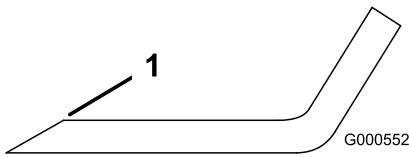
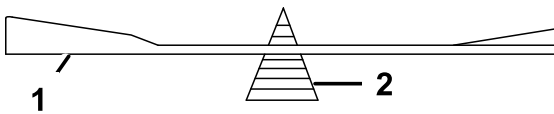

Figure 54
Figure 55
- Use a file to sharpen the cutting edge at both ends of the blade (Figure 54). Maintain the original angle. The blade retains its balance if the same amount of material is removed from both cutting edges.
- Check the balance of the blade by putting it on a blade balancer (Figure 55). If the blade stays in a horizontal position, the blade is balanced and can be used. If the blade is not balanced, file some metal off the end of the sail area only (Figure 54). Repeat this procedure until the blade is balanced.